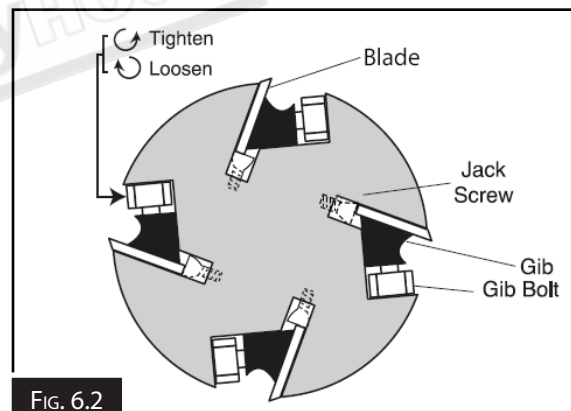

FIG. 6.2
5. Loosen the cutterhead gib bolts until the blade is completely loose. If the blades are to be replaced, remove the old blade and install the new one, making sure the bevelled edge of the new knife is facing the correct direction. (Fig.6.2)